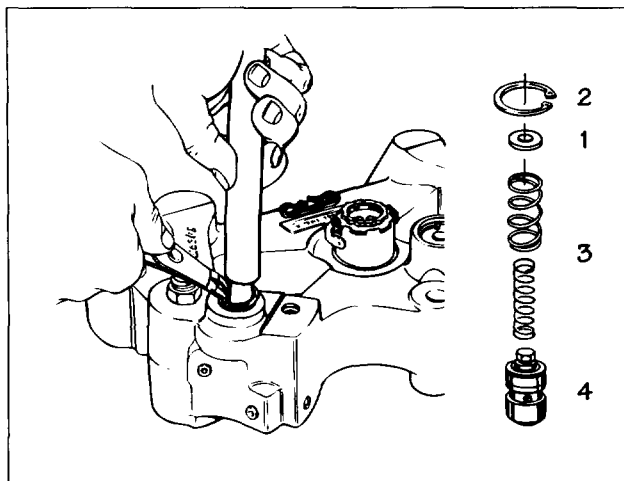

FIG. 24
1. Push down on the control valve cover (1) using the appropriate diameter rod. Remove retaining ring (2) using retaining ring pliers (see Fig. 24).
2. Slowly remove the control valve cover until spring pressure ceases, then remove the two control valve springs (3).
3. Using needle-nose pliers, reach into the bore and grasp the stem of the control valve (4) (see Fig. 24). Remove the control valve.